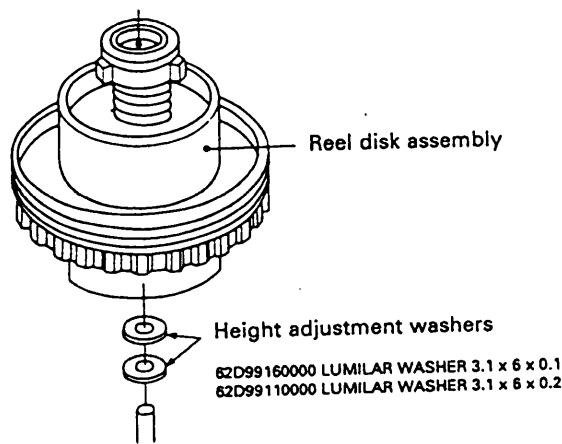

Fig. 3-3 Washers for height adjustment
- If it is necessary to adjust the height, add or subtract the required number of height adjustment washers as shown in Fig. 3-3.